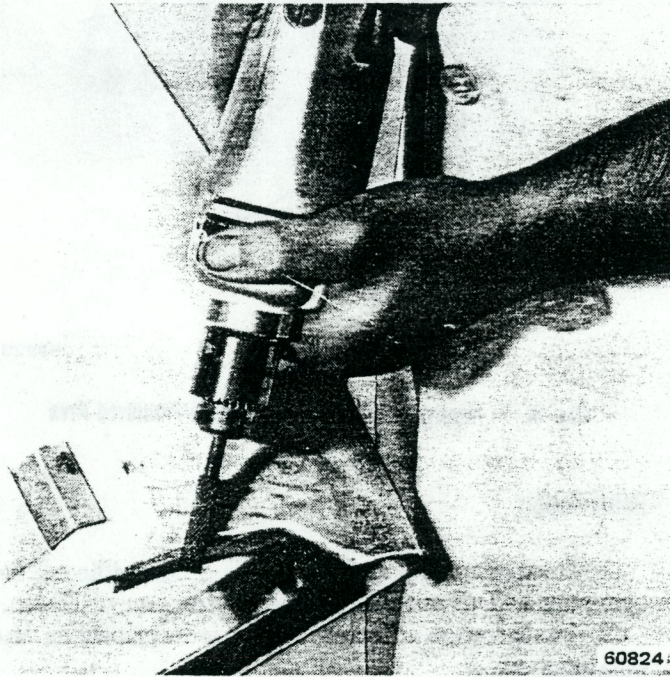

Fig. 3L-2 Beveling Edges of Broken Piece with Rotary File
(2) Bevel edges of break on both sides, using rotary file as shown in figure 3L-2.
(3) Clamp broken piece into place leaving 1/16-inch gap along break line.
(4) Mix Structural Adhesive, according to manufacturer's instructions, apply liberally to break as shown in figure 3L-3.
(5) Use air file or hand file board for shaping of hardened Structural Adhesive.